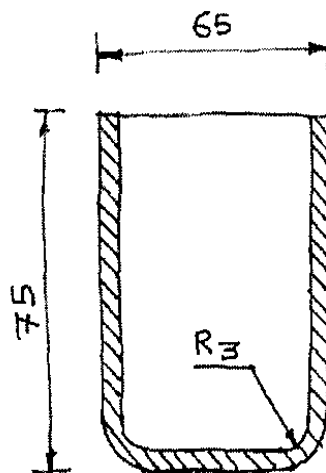

Figure No. 1
- Q1) a)** To design a drawing die for a component as shown in figure no.1, calculate following values for a sheet of thickness 5 mm and yield strength 360 MPa. i) Blank size, ii) Percentage reduction, iii) Number of draws required, iv) Cup diameter and height in each draw, v) Die and punch dimensions in each draw, vi) Press capacity required in each draw **[12]**